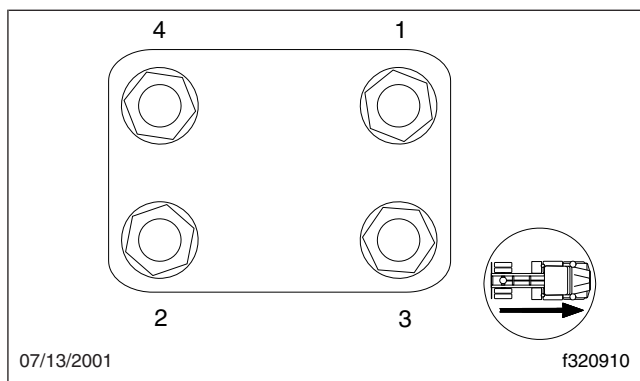

Fig. 11, Tightening Pattern for U-Bolt Nuts
2. Check U-bolt torque in a diagonal pattern. Set a click-type torque wrench to the highest torque value for the fastener being checked. See **Group 00** for torque specifications. Turn the wrench in a clockwise motion (looking up) until the torque wrench clicks. See **Fig. 11**.